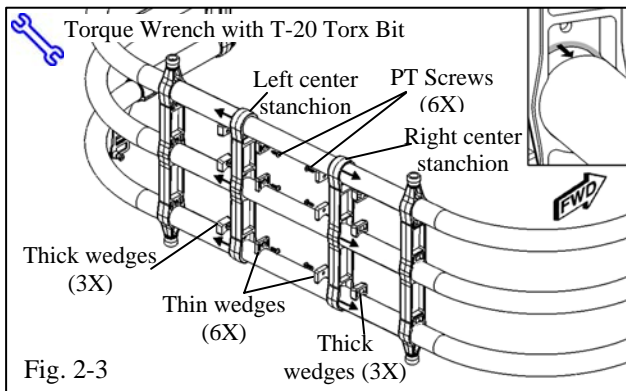

Fig. 2-3
- !** (2) Move the right center stanchion over the right tube section by tapping with a rubber mallet (Fig 2-3).
- (3) Insert wedges into the three (3) wedge pockets of stanchion on both sides of each stanchion with the thinner wedges facing the center of the Bed Extender (Fig 2-3).
- !** (4) Insert three (3) PT screws from the center of the Bed Extender. With the T-20 Torx bit on the torque wrench, tighten the three (3) screws after stanchion is securely in place to 2.3 N-m (20 lbf-in). (Fig 2-3)
- (5) Repeat Steps 2. (b) (2) through 2. (b) (4) for the other (left) center stanchion.